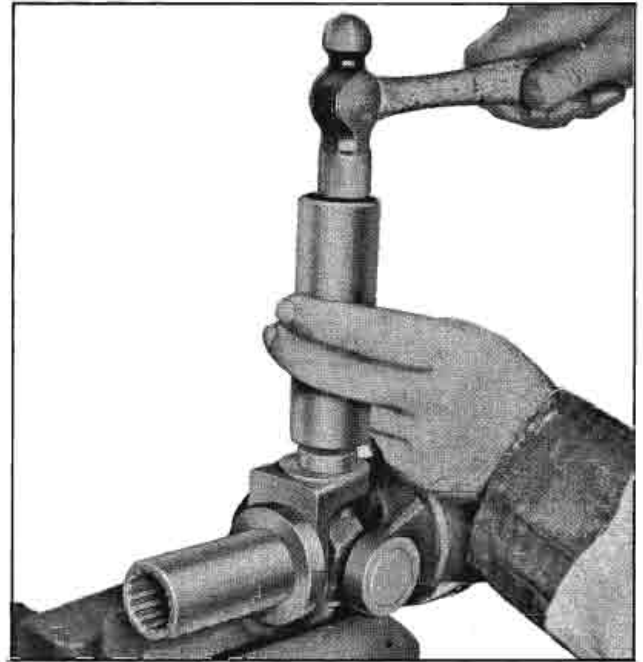

Fig. 4A-5 Removing Bearing From Splined Yoke Member
- b. Using a piece of pipe or similar tool with diameter sufficiently large to encircle bearing (slightly larger than $1\frac{1}{8}$ inch), apply force on yoke around bearing (Fig. 4A-5). This will drive yoke